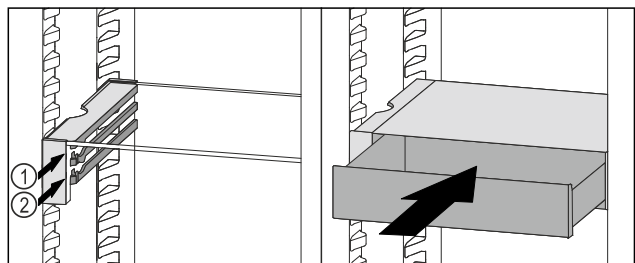

Fig. 91
- ▶ Place the VarioSafe drawer behind the stoppers on desired rib *Fig. 91 (1)* or *Fig. 91 (2)*.